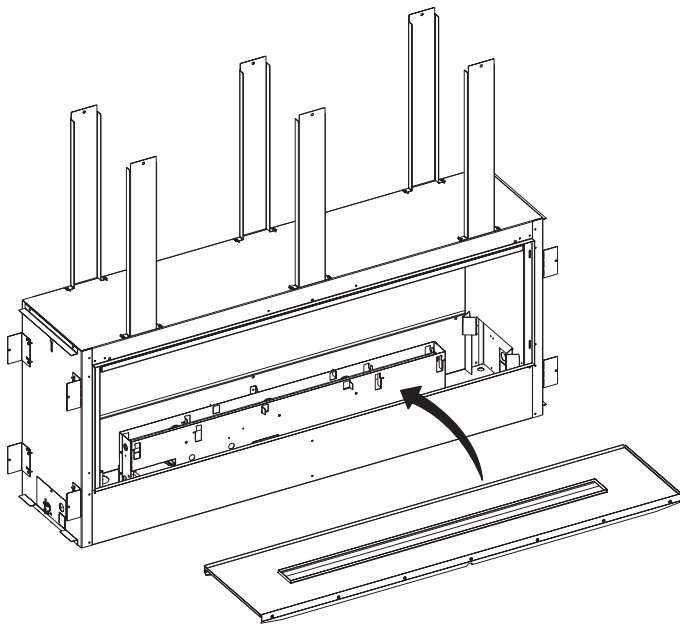

Figure 49
4. Install the burner cover assembly as shown in **Figure 49**.